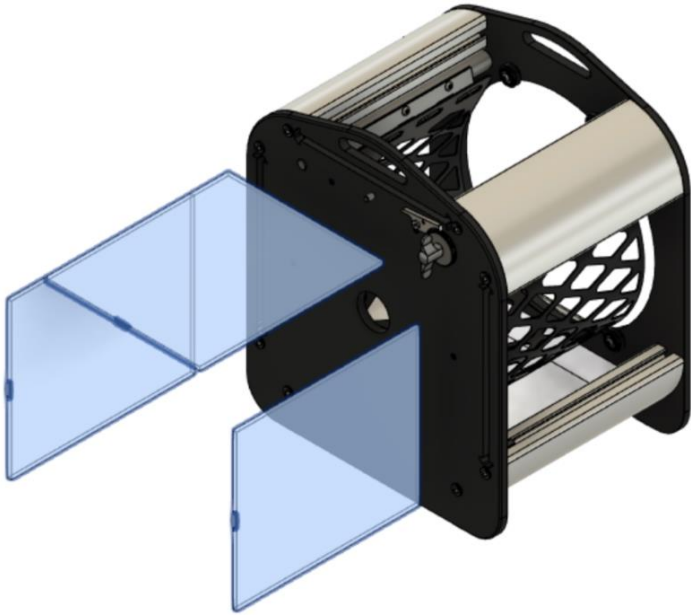

Fig. 17
8. Before mounting the motor assembly insert the PETG Windows into the holes in the rear plate (see Fig. 17).